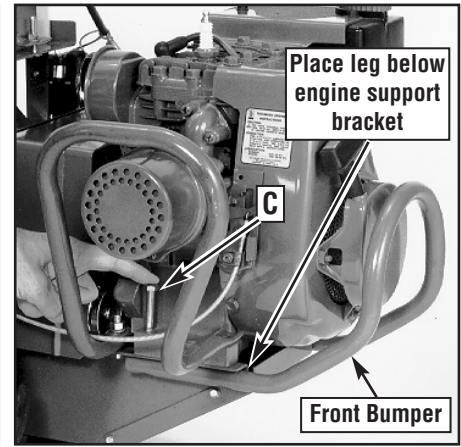

Figure 5: Insert screw (C) down through engine base, engine support bracket and leg of front bumper. Loosely add a lockwasher and nut.
4. Position the two legs of the front bumper underneath the left and right side engine support brackets (see Figure 5). On the right side of the engine, align the hole in the end of the bumper leg with the holes in the rear of the engine base and the engine support bracket. Insert a new 2-1/2-in. long screw (C, Fig. 5) down through the holes and loosely add a spring lock washer and hex nut.